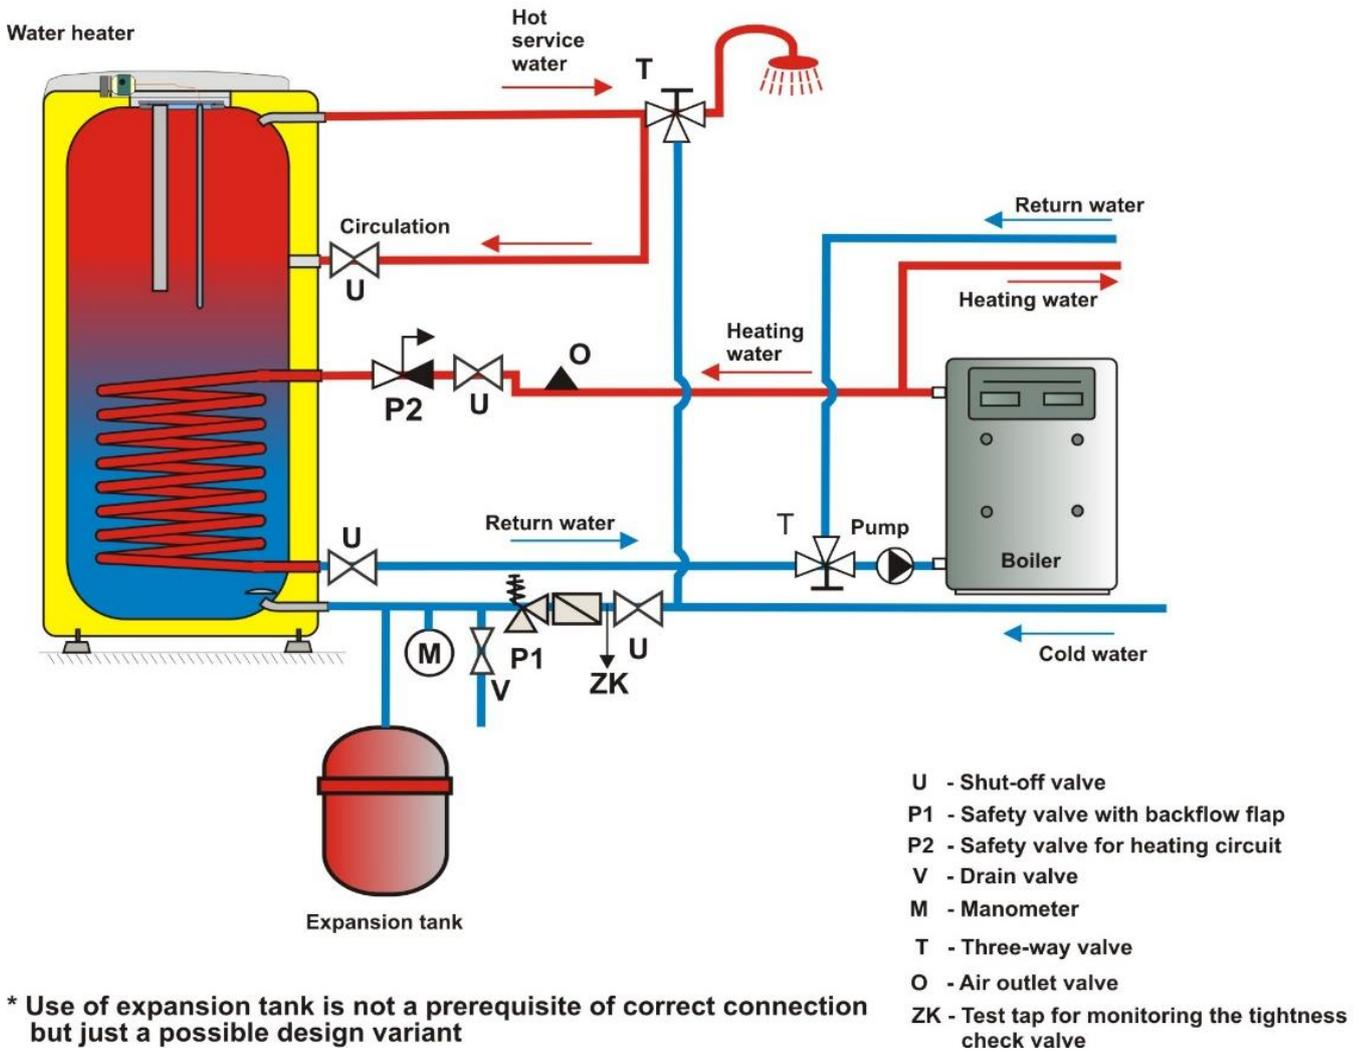
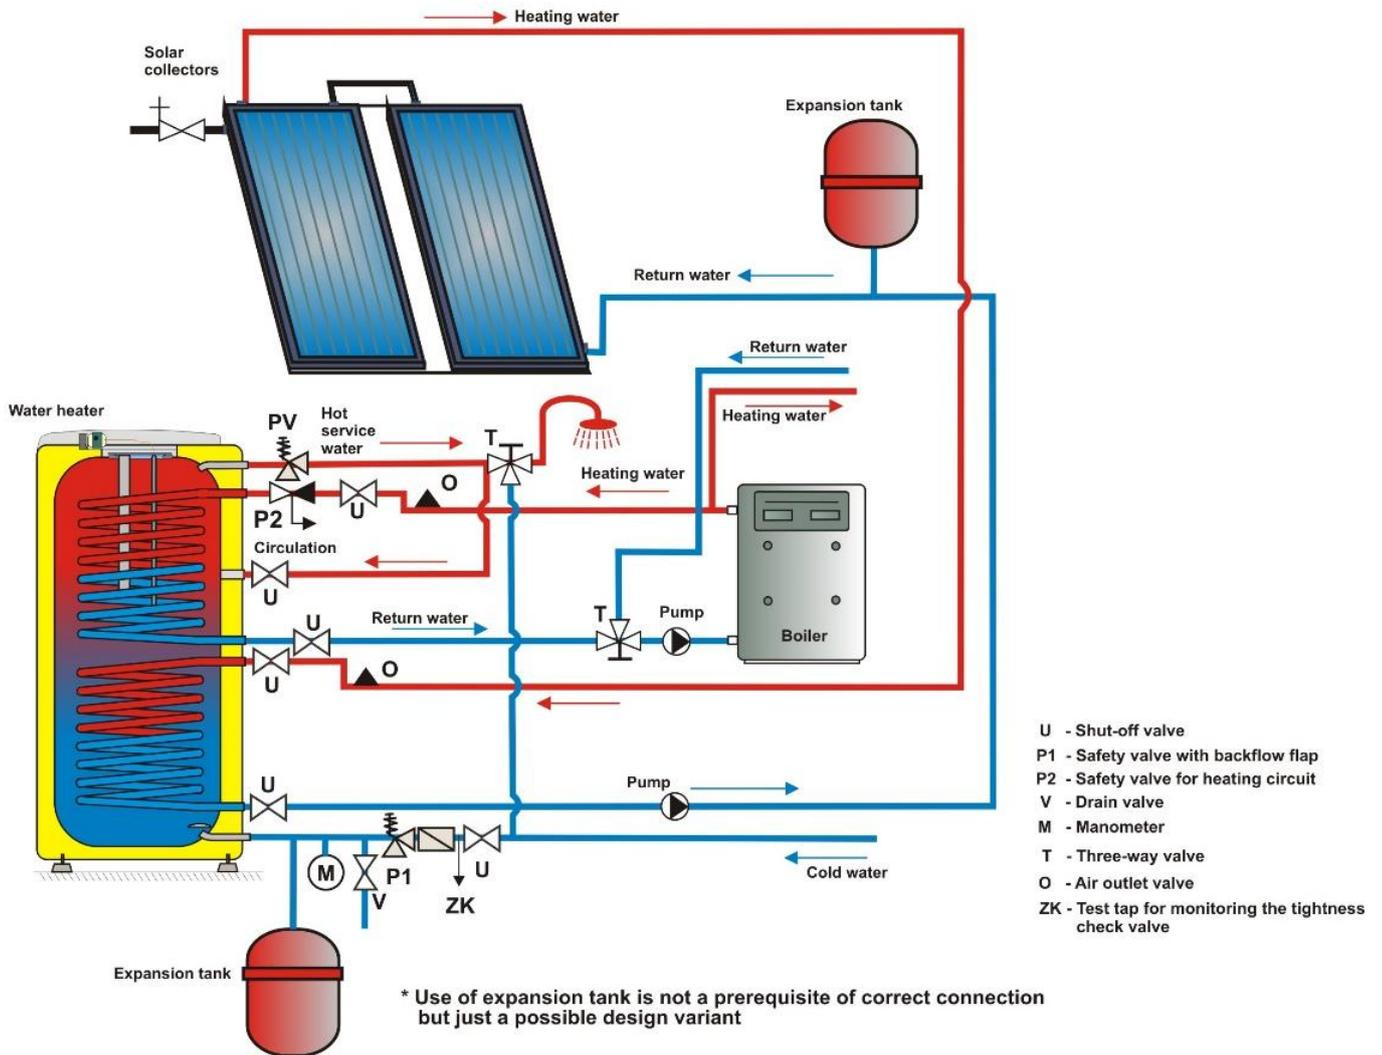
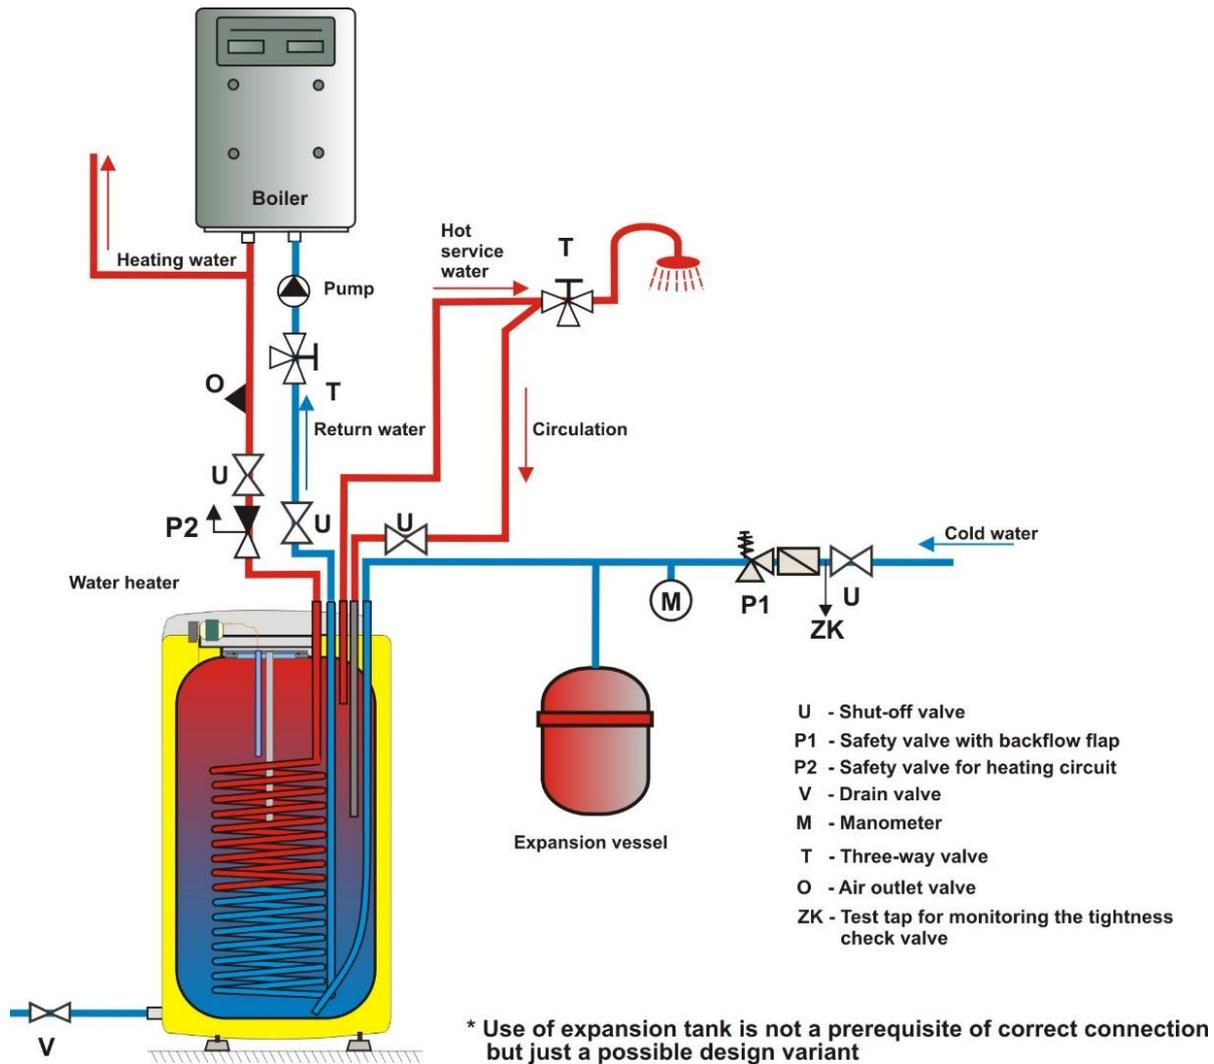

Figure 8
Figure 10
Figure 11
Connecting tanks to plumbing fixtures is shown in (Figure 7, Figure 8, Figure 9, Figure 10, Figure 11). For potential disconnection of the tank, utility water inlets and outlets must be provided with 3/4" screw coupling. If the hot utility water (HUW) distribution is equipped with circulation circuit, the reverse pipe is connected to the inlet identified as CIRCULATION. Types 100, 125, 160 NTR and 100, 125, 160 NTR / HV are equipped with a drain outlet. A "T" plumbing with a drain valve has to be mounted in type 200 and NTR(R) on the HSW inlet. The tank shall be equipped with a safety valve to ensure the operation. The safety valve is mounted on the cold water inlet identified with a blue ring. We recommend that the hot water distribution from the heater was as short as possible to minimize heat losses. Tanks must be provided with a discharge valve mounted on the cold service water inlet into the heater for potential disassembly or repair.